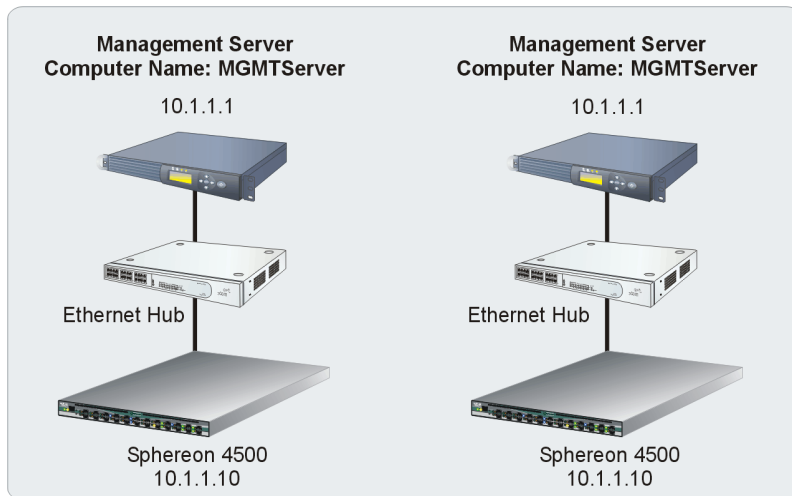
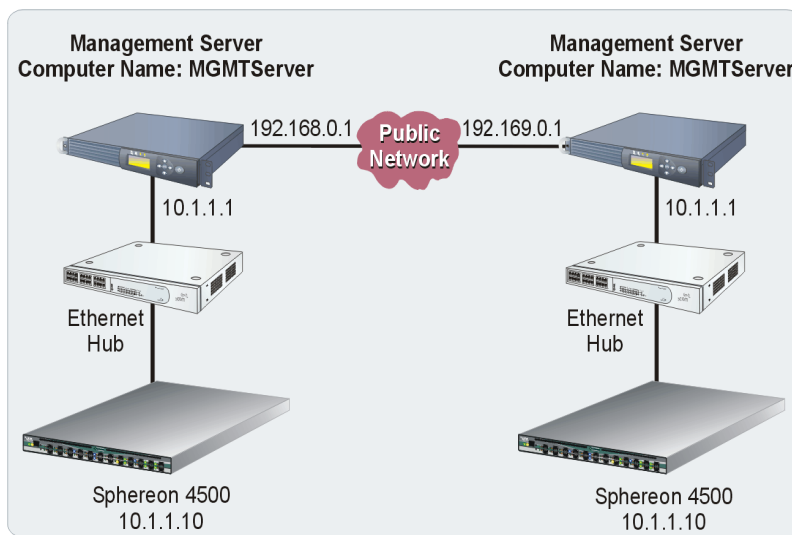

Figure D-1 Servers Before Consolidation (Private LAN Connection Only)
Figure D-2 Servers Before Consolidation (Private and Public LAN Connections)
- Multiple management servers (Figure D-1 on page D-2), each with one Ethernet media adapter connected to a private network (LAN 2) that provides director and switch attachment. The second Ethernet media adapter (LAN 1) is not connected.
- Multiple management servers (Figure D-2), each with one Ethernet media adapter connected to the private director and switch network (LAN 2), and a second Ethernet media adapter connected to the customer's corporate intranet (LAN 1).
Perform the following steps for the switch configurations shown in Figure D-1 on page D-2 and Figure D-2 on page D-2: